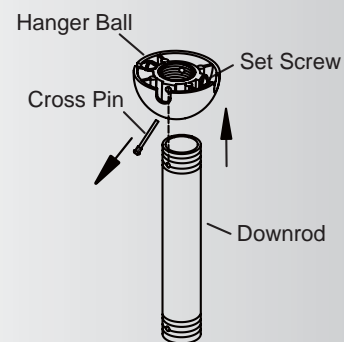

Fig. 7
Step 3. Use a screwdriver to loosen the cross pin and remove it from downrod assembly. Loosen the set screw and rotate the hanger ball off the downrod. (Fig. 7)